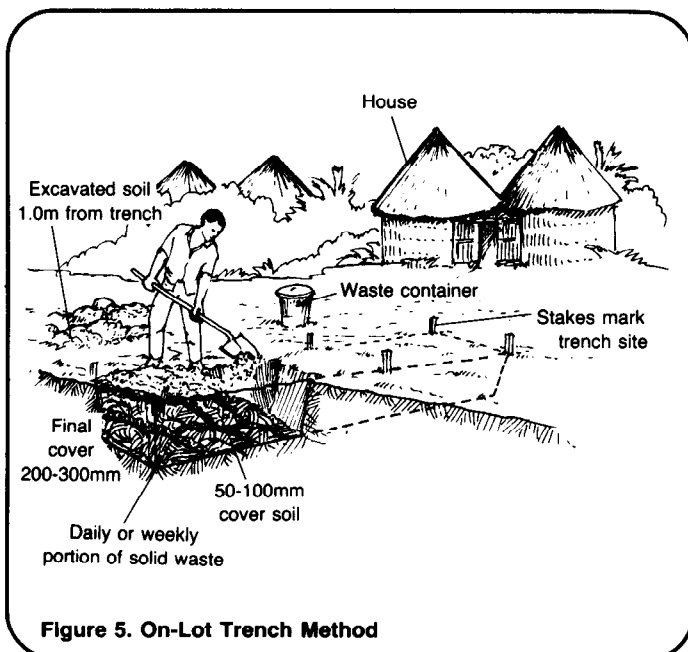

Figure 5. On-Lot Trench Method
1. Using the location map, design drawings, and measuring tape, locate the site and mark the dimensions of the trench on the ground. Set wooden stakes or pointed sticks at the corners and along the sides of the trench. These stakes may have to be replaced from time to time because the trench is designed to last at least five years. See Figure 5.
3. Pile excavated soil about 1.0m from the edge of the trench to allow a person to move between the soil and the trench. See Figure 5.
4. Daily or weekly, dump garbage or other solid waste in the trench, starting at the end, and cover with 50-100mm of soil. Do not leave exposed solid waste in the trench. Compact it and cover immediately. See Figure 5.
6. When the waste and cover soil have nearly risen to the original ground surface, place a final cover on it of 200-300mm of soil or composted material as shown in Figure 5. See "Operating and Maintaining Compost Toilets," SAN.1.0.6, and "Operating and Maintaining a Composting System," SAN.3.0.2.